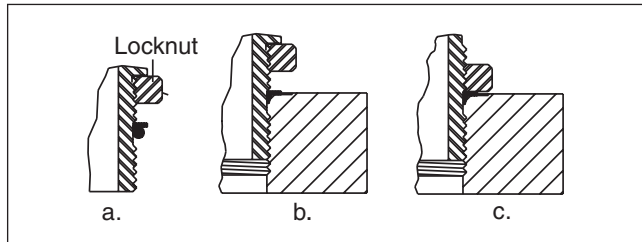

Figure 7.8—Locknut Procedure
2. Back locknut off as far as possible. Make sure back-up washer is not loose and is pushed up as far as possible (figure 7.8, a).
3. Screw the fitting into the port until finger tight. The back-up washer should contact the face of the port (figure 7.8, b).
5. Use a wrench to hold fitting in desired alignment. Tighten the locknut with a torque wrench to torque spec listed below (figure 7.8, c):